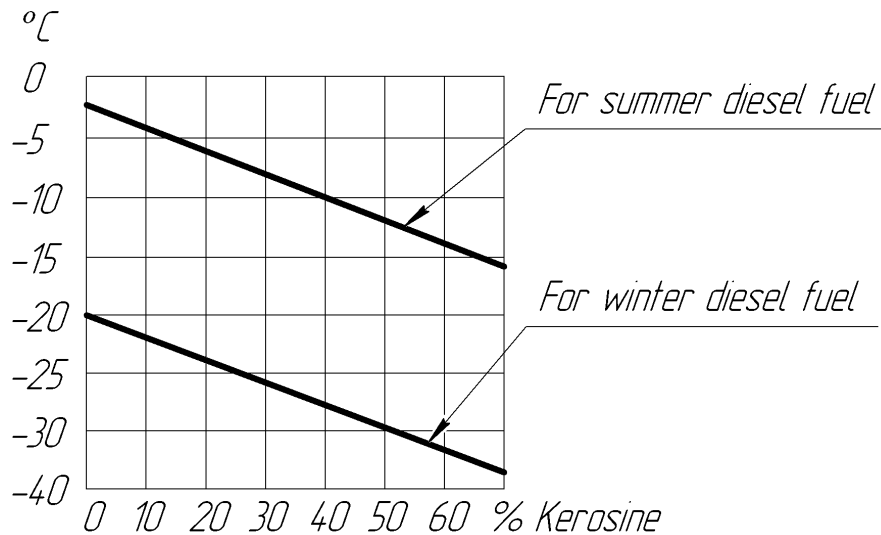

Figure 10 - Amount of kerosene mixed with diesel fuel, depending on the ambient temperature.
12.2 Reliable operation of heater depends on the type of fuel used. Type of fuel should be in accordance with GOST 305-82, depending on the ambient temperature (see Table 5). May be used and the mixture of fuel according to Figure 10.